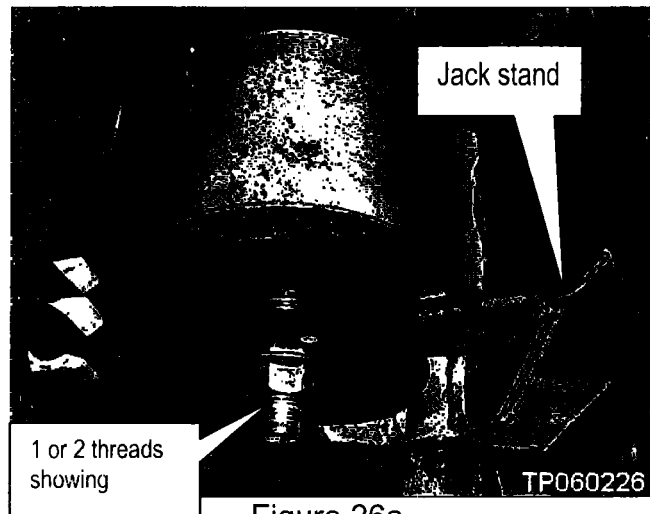

Figure 26a
- Lower the nut until only 1 or 2 threads are showing below the nut (see Figure 26a).